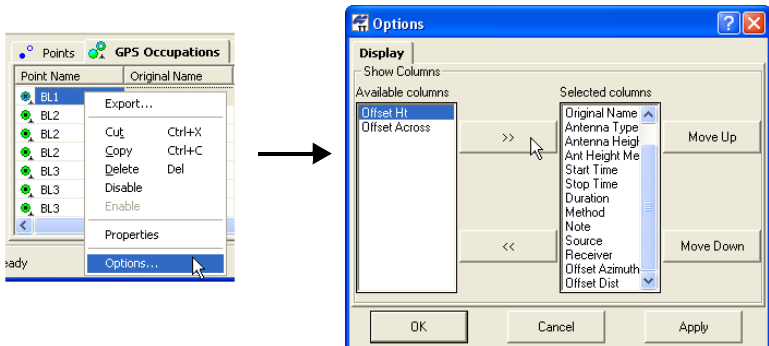

Figure 5-6. View Options
1. To edit offsets, right-click anywhere within the table and click **Options** on the pop-up menu (Figure 5-6).
2. On the **Options** dialog box, move the offset selections to the *Selected columns* area (Figure 5-6). Click **OK**.